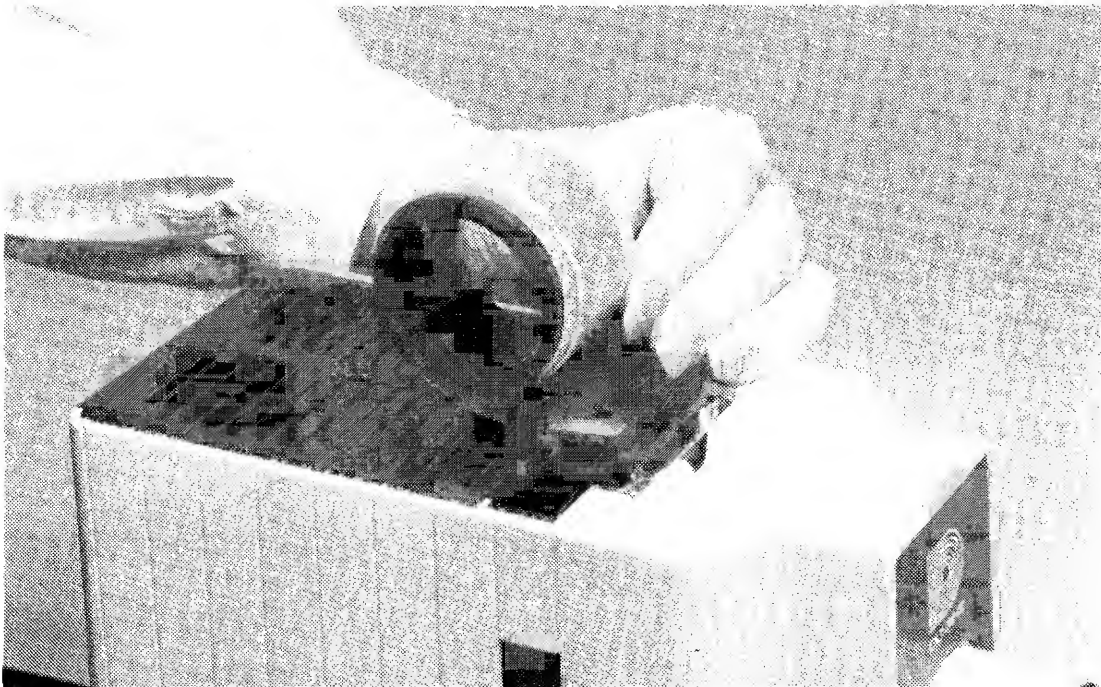

FIGURE 2
2. Place the 35mm filmstrip in the film spring. Insert the START frame of the filmstrip into the filmstrip carrier as shown (Figure 2).